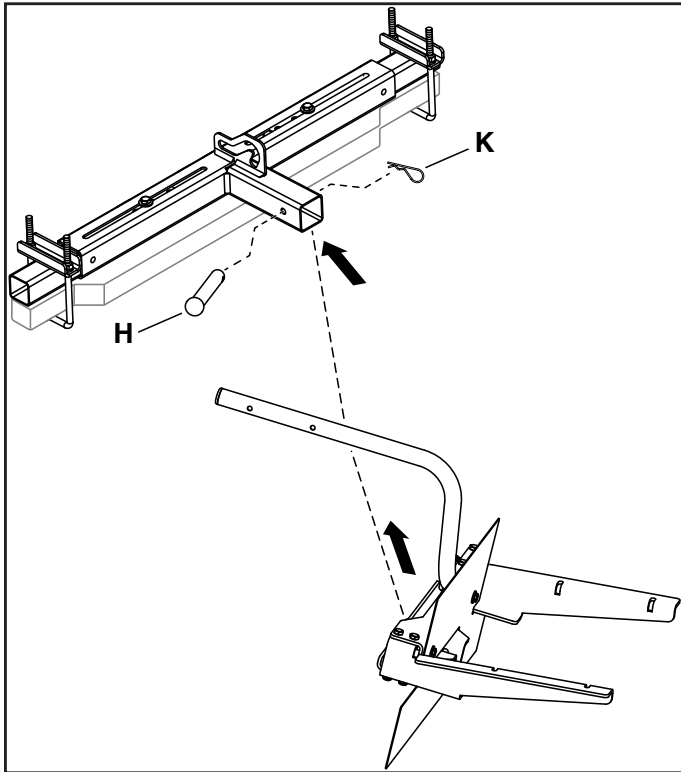

FIGURE 11
STEP 11: (SEE FIGURE 11)
- Take the spreader frame assembly and slide it onto the installed hitch mount assembly (6). Line up the holes and then install clevis pin (H). Secure pin with the hair cotter pin (K).